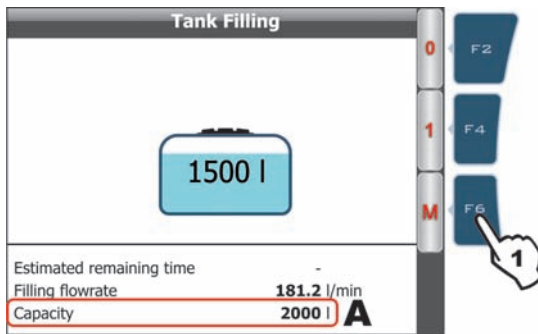
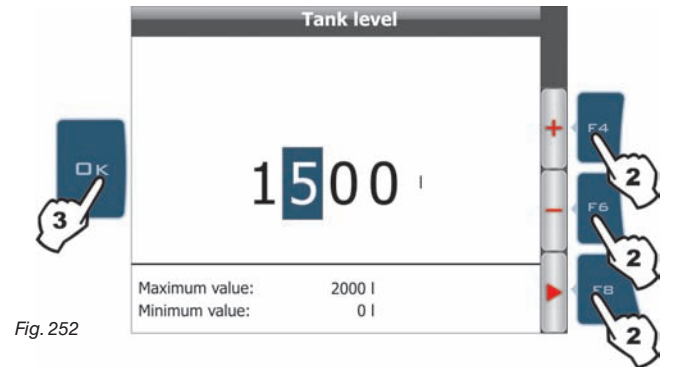

Fig. 251
Fig. 252
- Manual setup of filled quantity (Fig. 251)
It is not possible to set values exceeding the tank capacity (A in Fig. 251). In this case the screen in Fig. 252 shows the message Value out of range!